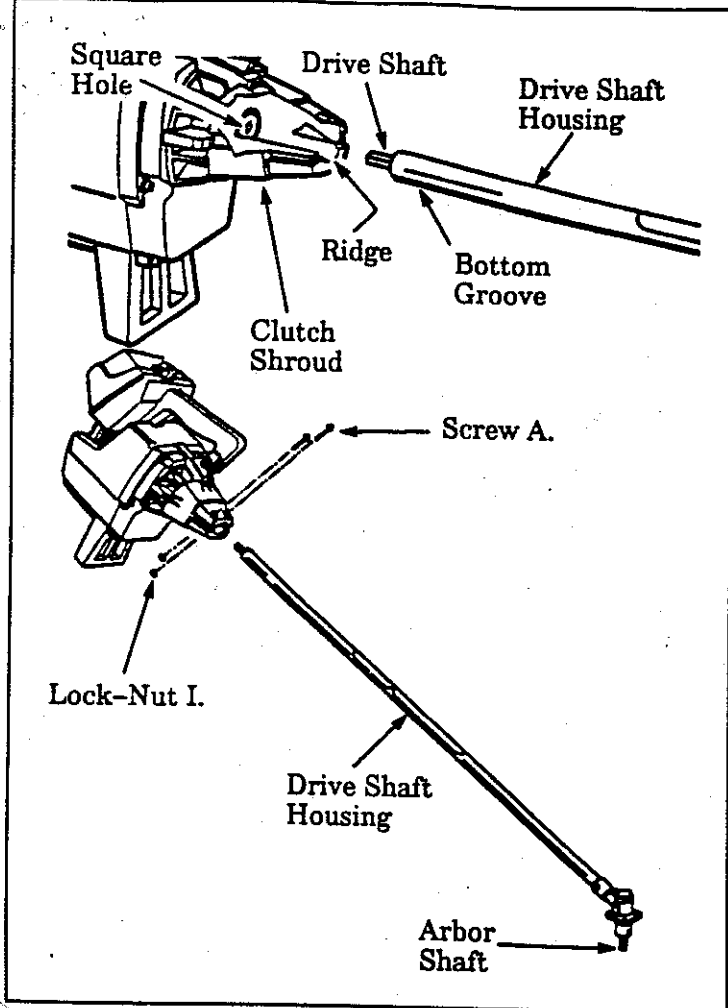

Figure 2
### 1. DRIVE SHAFT HOUSING (Figure 2)
- Place the two Screws "A." into the holes on the Clutch Shroud as shown in Figure 2.
- Align the bottom groove on the Drive Shaft Housing with the ridge on the inner, lower wall of the Clutch Shroud opening. Figure 2.
- Tighten Screws "A." alternately until secure. Figure 2.